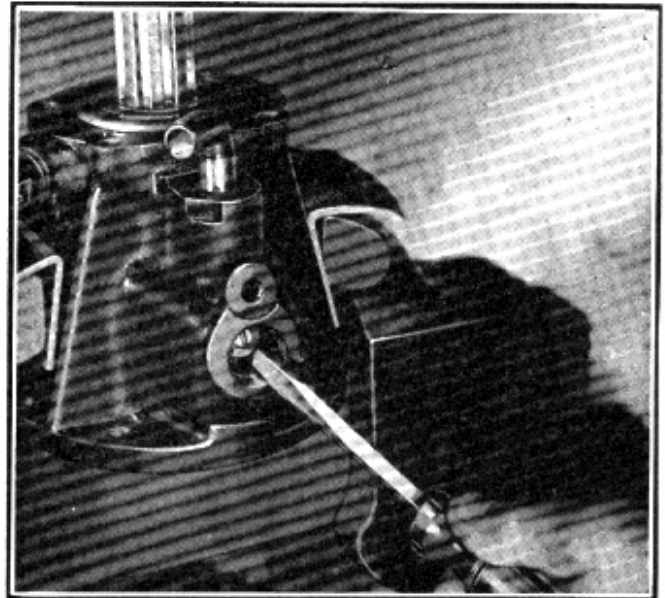
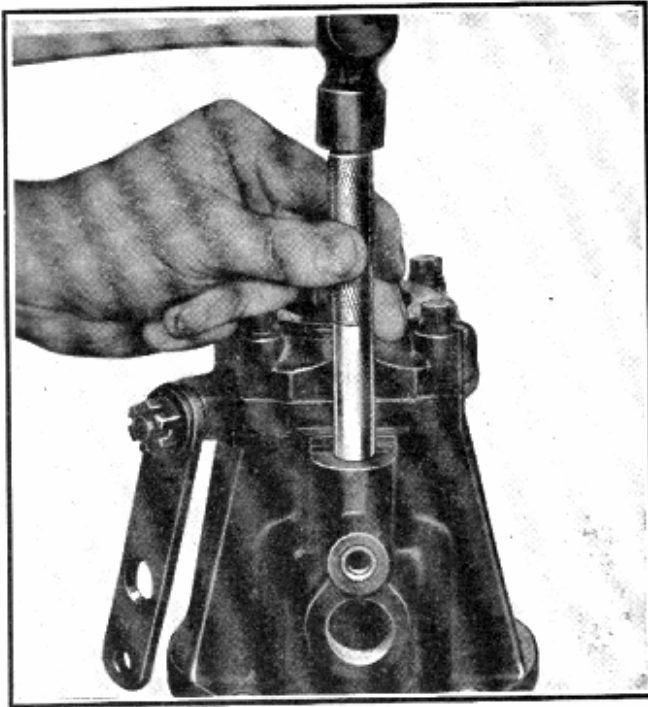

Fig. 22—Front Axle Shift Fork is Held to Shift Shaft by Set Screw as Shown
Fig. 27—Installing Shift Shaft Oil Seal, Tool No. J-1717
2. Remove the cap screws which attach the bearing cap (2) to the power take-off carrier (11).
3. Lift the cap assembly (2) from the carrier (11). Note the quantity and thickness of shims (4) that are used between the cap and carrier. These shims are used to obtain the proper bearing adjustment.
4. Remove the shift shaft lock ball screw (21). This will allow the poppet spring (20) and poppet ball (19) to be removed from the carrier (11).
5. Remove the plug (22), this will permit the use of a screw driver as illustrated in Fig. 22, to loosen the setscrew holding the shift fork (16) to the shifter shaft (17).
6. Remove the shifter fork (16) and the sliding clutch (10) from the large end of the carrier housing (11).
7. Place the carrier assembly in an arbor press with the rear or small end facing down. Press out the shaft (8) with the bearing cones (9) and the rear bearing cup (6).
8. If inspection indicates that the inner bearing cup (6) should be replaced, it can be driven from the carrier (11) with a brass drift punch and hammer. Place the carrier on a bench with the rear end down and tap the cup around the edge until it is removed from the carrier (11). During removal do not allow the bearing to become cocked in the carrier.
9. If further inspection indicates the necessity to replace the bearing cone (9) these should be removed and the new cones replaced with an arbor press.
7. Removal of the pipe plug (56) in the carrier will permit the use of a screw driver, as illustrated in Fig. 22 to loosen the setscrew holding the shift fork (61) to the shift shaft (62).
3. When it has been found necessary to replace the shifter shaft oil seal, replacing tool J-1717 should be used as shown in Fig. 27 to assure proper installation.
4. Install the shift fork (61), into the rear end of the carrier (60), with the long end of the fork hub toward the rear. Install the sliding gear (63) with the shift fork slot toward the rear and locate the shift fork in the slot of the sliding gear.
5. Install the declutch shaft and bearing assembly through the front of the carrier (60) and install the sliding gear (63) over the rear end of the shaft as it is pushed into place in the carrier. Install the outer bearing cup (66) in the carrier with the thick side toward the front.
6. Install the shift shaft (62) in the carrier (60) and through the hub of the shift fork (61). Line up the hole in the fork with the hole in the shaft and install setscrew, tighten securely with a screw driver as shown in Fig. 22. Prick punch the fork beside the screw to prevent loosening. Install the pipe plug (56) in the carrier.
1. If either of the bearing cones (9) have been removed, they should be replaced, using an arbor press for the rear bearing and bearing replacing tool J-1718 for the front bearing.
2. When the inner bearing cup (6) has been removed from the power take-off carrier it is important that it be replaced so that it seats against the shoulder in the carrier housing (11). If the cup does not seat fully or is cocked it will be impossible to obtain proper bearing adjustment.
4. Install the power take-off shaft and bearing assembly in the front end of the housing (11) and install the outer bearing cup (6) in the carrier housing.
5. Install the outer bearing cap (2) with oil seal removed, using a new gasket (5) and the same quantity and thickness of shims as were removed at disassembly.
6. Tighten the cap screws attaching the cap (2) to the housing (11). Install the universal joint companion flange and retaining nut (1) and tighten securely.
7. Tap the flange to seat the bearing cups in the carrier housing. Turn the shaft (8) to determine if bearing drag or end play exists. If the bearings are properly adjusted the shaft (8) should turn freely without any perceptible end play. If this check indicates that further bearing adjustment is necessary, proceed with the adjustment as outlined in Paragraph 10 under the heading, "Declutching Carrier Reassembly".
8. After completing the bearing adjustment, remove the bearing cap (2) and install a new oil seal (3). Place oil seal installing tool No. XG-19846 over the end of the shaft (8). This is necessary to prevent damage to the oil seal. Install the cap (2) over the shaft and push into place, start the retaining cap screws but do not tighten. Remove the oil seal installing tool and install the universal joint flange, tighten retaining nut securely. Tighten the cap retaining cap screws.
9. Install the shift shaft (17) in the housing (11) as the fork (16) is slipped on the shift shaft (17) and the sliding clutch (10) is slipped over the splines on the shaft (8). When installing the shift fork (16) on the shift shaft (17), make certain that the long part of the shift fork is toward the outer end of the power take-off housing, also that the slot of the sliding clutch (10) is facing toward the rear end of the power take-off housing.
10. Line up the setscrew in the fork (16) with the hole in the shaft (17) then tighten the setscrew securely using a screw driver in a manner similar to that in Fig. 22. When the screw has been tightened, prick punch the fork beside the screw to prevent loosening. Replace the plug (22) in the carrier.